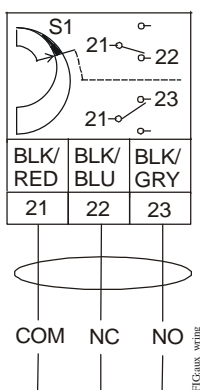

Figure 11: Auxiliary Switch Wiring Diagram
See Figure 9, Figure 10, and Figure 11 to wire the applicable M9203-GGx-2(Z) Series model